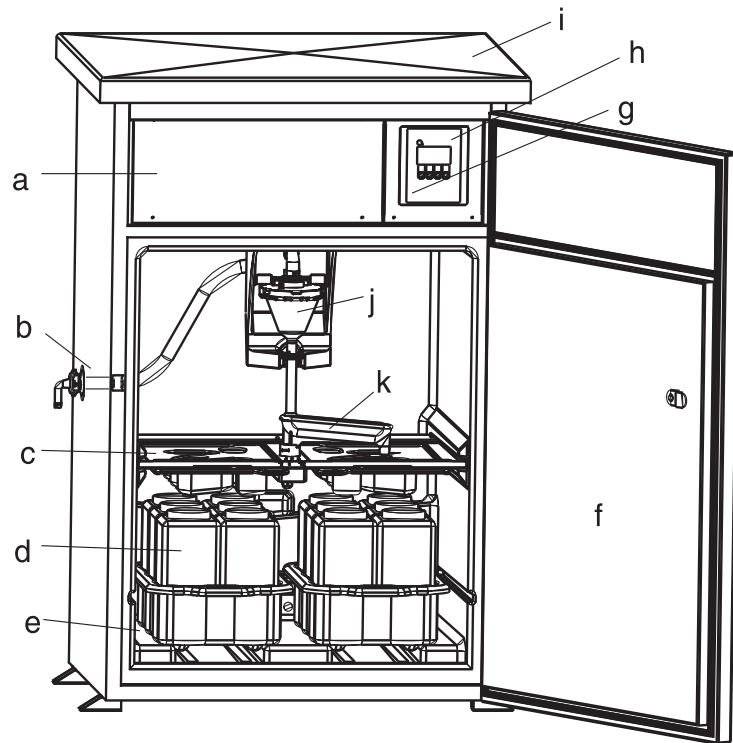

Fig. 2: ASP Station 2000 installation overview
3. Screw the sampling house to the hose connection of the device (see Fig. 2, item d).